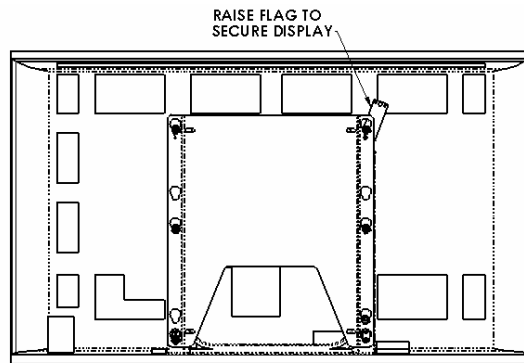
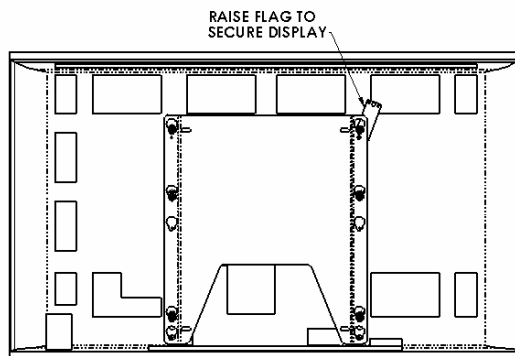

Figure 12
Figure 13
9. With the aid of another person, lift the plasma display up to the mount, align the mounting buttons on the plasma with the teardrop slots in the mount, and set the plasma into place (see Figure 12 or Figure 13).